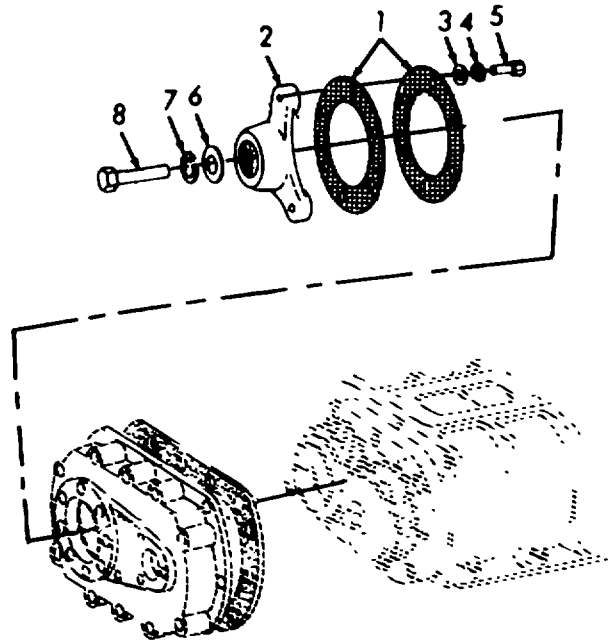

Figure 3-42. Drive Hub, Installation.
- (46) Refer to figure 3-42 and install plates (1) to hub (2). Secure with three washers (3), three lockwashers (4), and three bolts (5). Torque bolts to 25-30 lb-ft (34-41 Nm).
- (47) Install hub (2) and secure with three washers (6), three lockwashers (7), and three bolts (8). Torque bolts to 25-30 lb-ft (34-41 Nm).